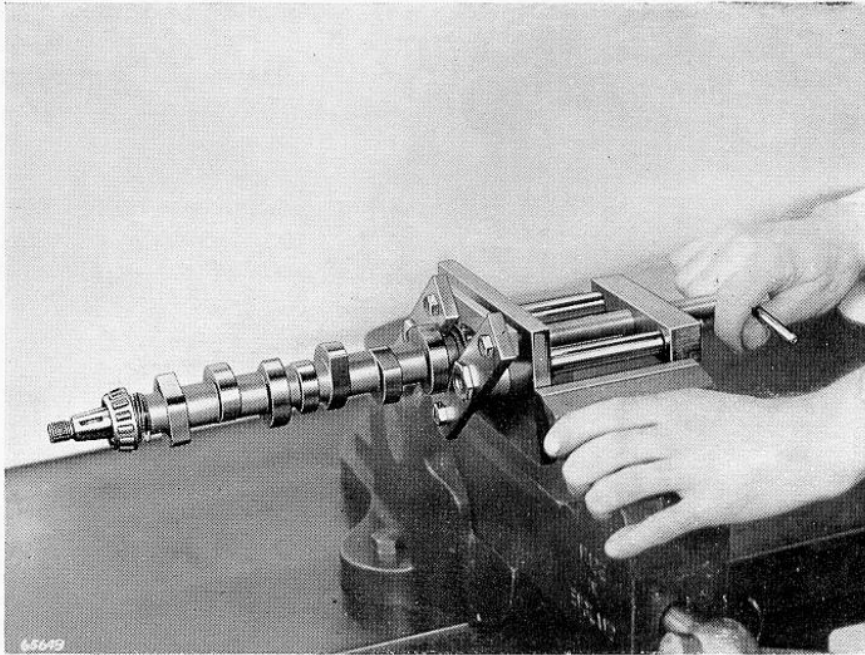

FIG. 7. WITHDRAWING ROLLER RACE FROM CAMSHAFT USING TOOL 7144/436A
10. Remove the races and inner tracks of the bearings from the camshaft, using tool C.A.V. Part No. 7144/436A, as illustrated in Fig. 7.
11. Remove the tappet assembly locating screws (9).
14. Withdraw the tappet assembly (25), together with the phasing washer (29), lower spring plate (24) and plunger (7) through the aperture in the base of the pump housing.
16. Withdraw the plunger spring, and after disengaging the control quadrant (20) from the control rod (21), slide the control sleeve (23) from the plunger barrel.
17. Repeat items 14-17 for each element, keeping the components of each element assembly together, so that they can be reassembled in the same position from which they were taken.